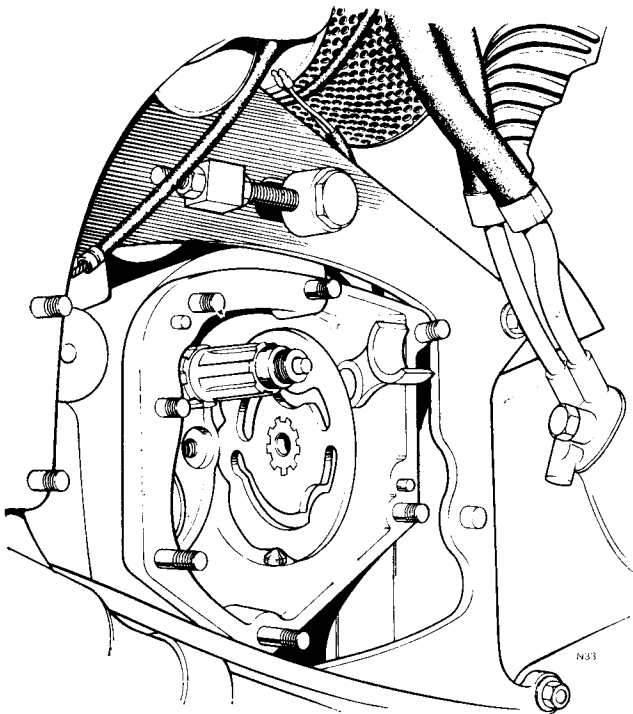

Fig. D2 Location of camplate to index plunger. Knuckle end of quadrant is aligned to top front cover stud
- 5 Lift the knuckle end of the quadrant until the top inside radius is directly in line with the top front cover stud (see Fig. D2), fit the camplate and sealing ring, engaging the teeth of the quadrant and camplate so that the notched edge of the camplate is towards the gearbox sprocket and the smooth edge towards the gearbox inner cover, the last notch at the bottom engaging with the camplate index plunger (see Fig. D2).